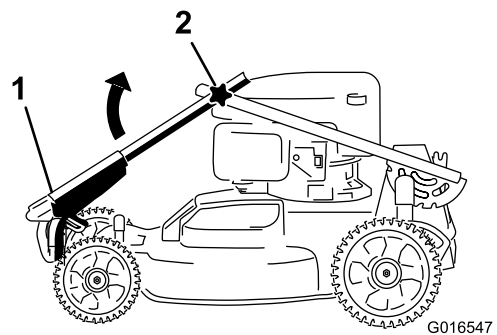
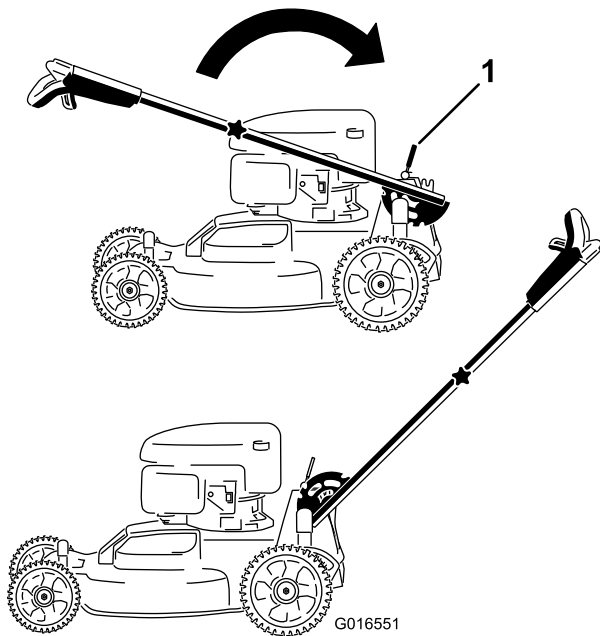

Figure 3
Figure 4
1. Rotate the upper handle so that it nests together with the lower handle (Figure 3), and tighten both knobs on the handle to lock the upper handle in place (Figure 4).